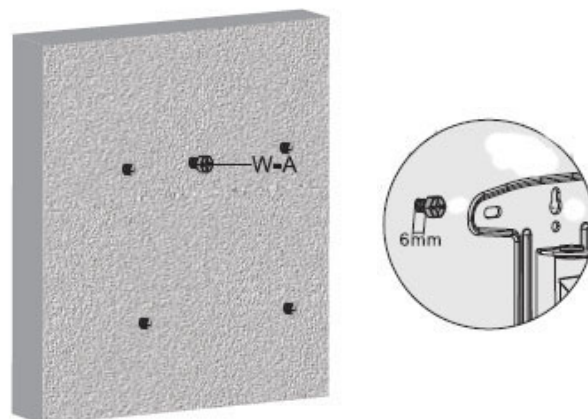

Figure 2B-4
- 7. Place the wall plate to the wall, insert the top center mounting hole onto the mounted screw, see **Figure 2B-5**.